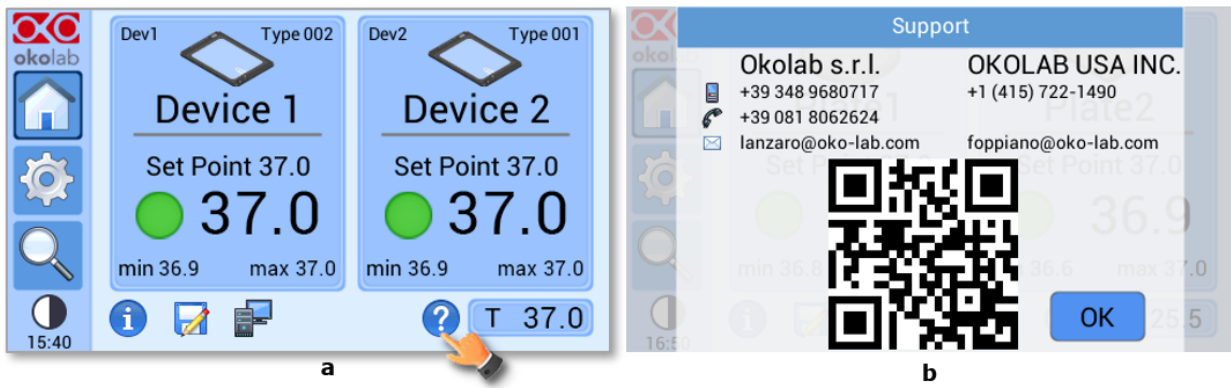

Figure 91. Support Page. (a) How to reach the support page (b) Support page.
**Tip** ► By pressing on icon  in the Homepage, see Figure 91 (a), the page in Figure 91 (b) will open. Here you can see the Italian and US Okolab contacts; moreover you can use the QR code in order to connect you to the Okolab site.